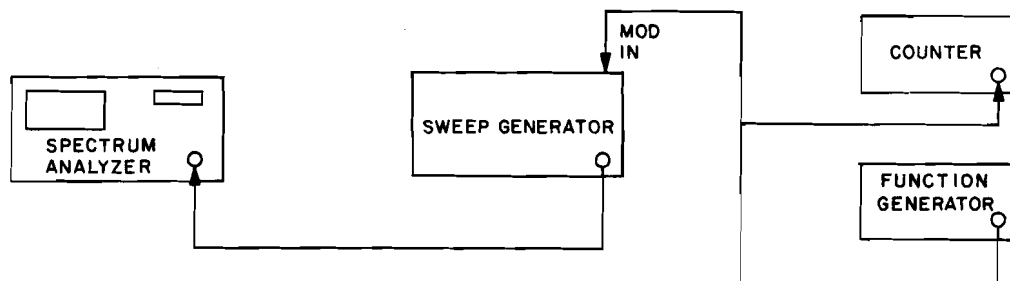

Figure 4-8. Scan Time Accuracy Test Set-Up
1. Connect the test equipment as shown in Figure 4-8.